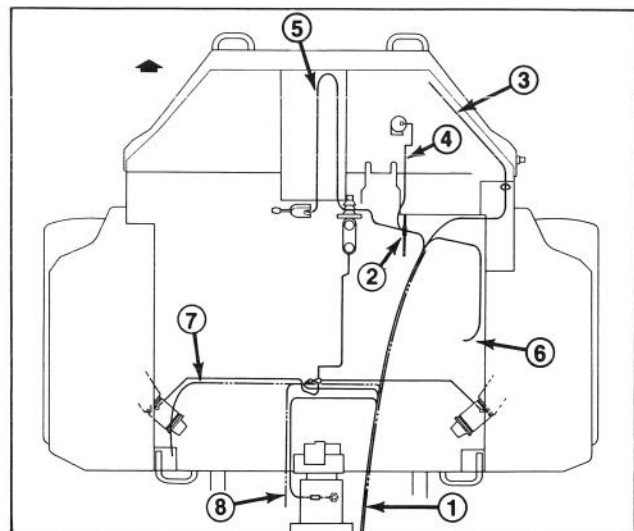

Figure 17
1. Locate the machine main wire harness on the right side forward of the front axle and route the wire harness alongside with turn signal, headlights, horn, control panel and brake switch wire connections at the front (Fig. 17).
2. Connect the harness connector to the brake switch in the hydraulic pump and the two eyelet connectors to the standard brake switch (Fig. 17). Route wires along the harness for the neutral switch, fuel tank and oil temp. indicators.
3. Follow existing harness and route butt connector ends up to the signal controller harness in the steering column. Slip shrink tubing over wires and insert the signal controller wires into the butt connector with matching wire colors (Fig. 17). Crimp the connectors to secure them together and seal with shrink tubing.